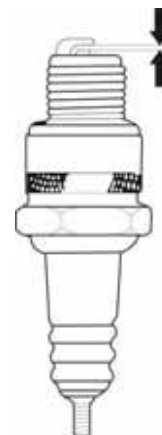

Figure 3-4: Verify Spark Plug Gap
6. See Figure 3-4. Set the gap to on the spark plug to 0.7-0.8 mm (0.028-0.031 in.).